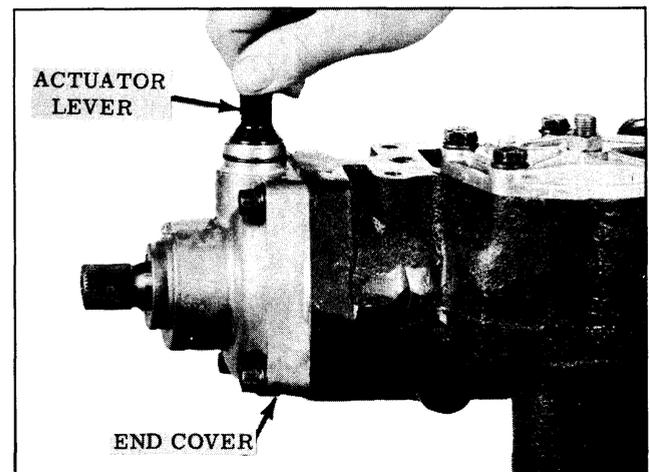

Fig. 5-30 Actuator Lever Removal
13. Pull the actuator lever from the end cover. (See Fig. 5-30)